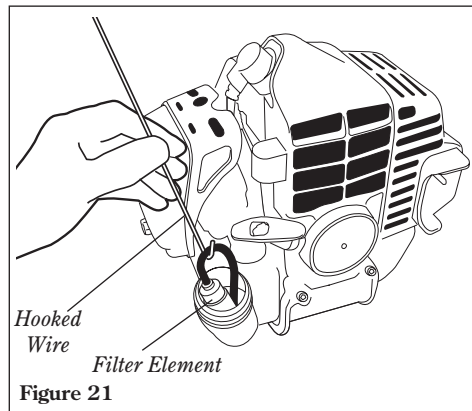

Figure 21
- Use a hooked wire to extract the fuel filter from inside the fuel tank. See figure 21.